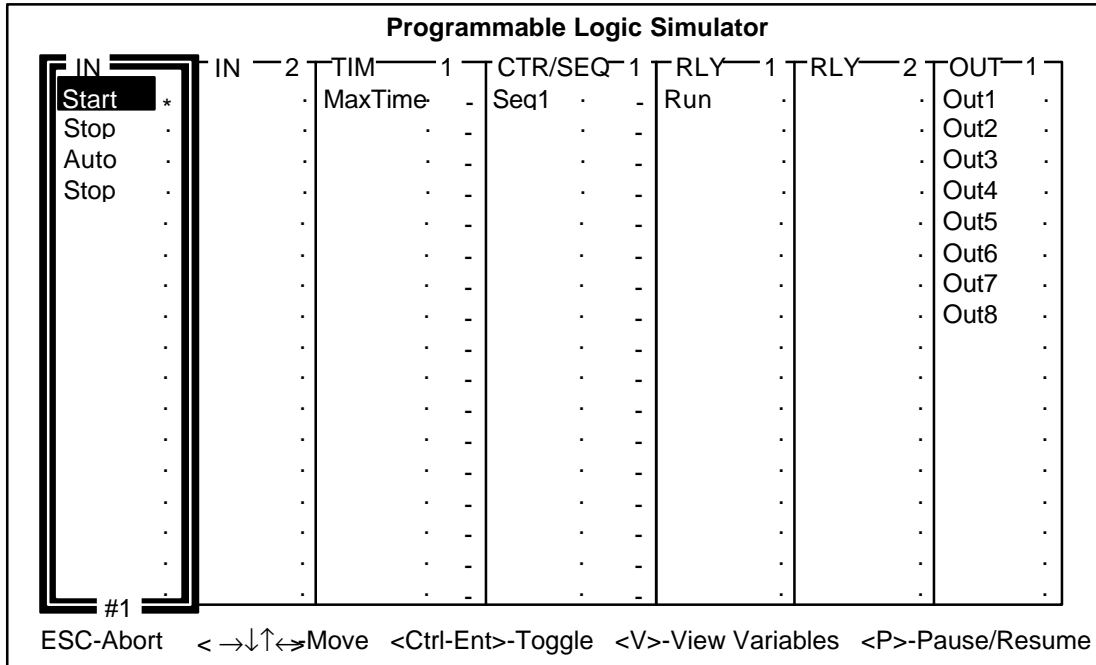

Figure 3.11
1. Having completed the trial program, it is time to test if it works as intended using the built-in real-time programmable controller simulation engine. Open the "Simulate" pull-down menu and activate the command " Run (all i/o reset) Ctrl-F9 ". TRiLOGI will immediately compile the ladder program and if no error is detected, it will instantly proceed to open up the "Programmable Logic Simulator" screen, as shown in Figure 3.11.